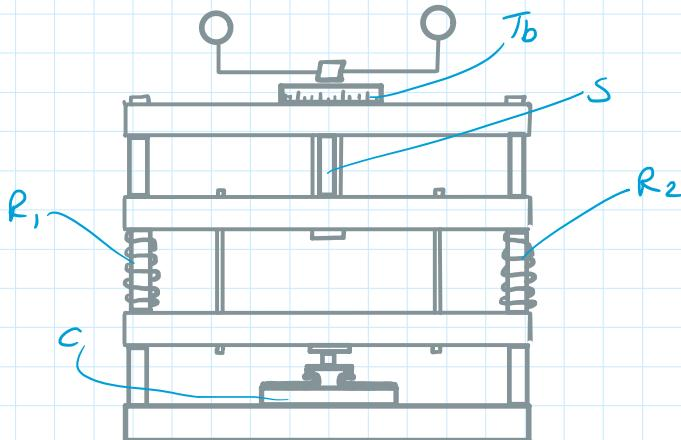

Fig 2 - Schița dispozitivului de realizarea forței de presare în contact
- use force application device (Fig 2) to adjust the contact pressing force (F) between 0 & 100 N by rotating the graduated drum Tb (1 rotation = 1 N force)